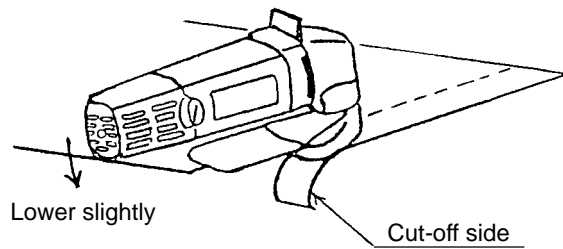

Fig. 3
- (2) As illustrated in Fig. 3, the tail portion of the main body of the tool should be lowered slightly when the cut-off side of the workpiece is on the right side of the tool.